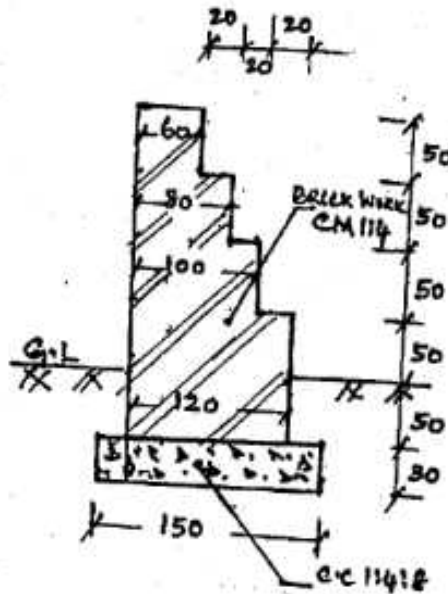

Fig. 2
- (b) The sketch given in Fig. 2 shows the cross section of the retaining wall. Find out for 20 m length of this wall the following:
- (i) Cement concrete 1:4:8 (8)
- (ii) Brick work in CM 1:4 (8)